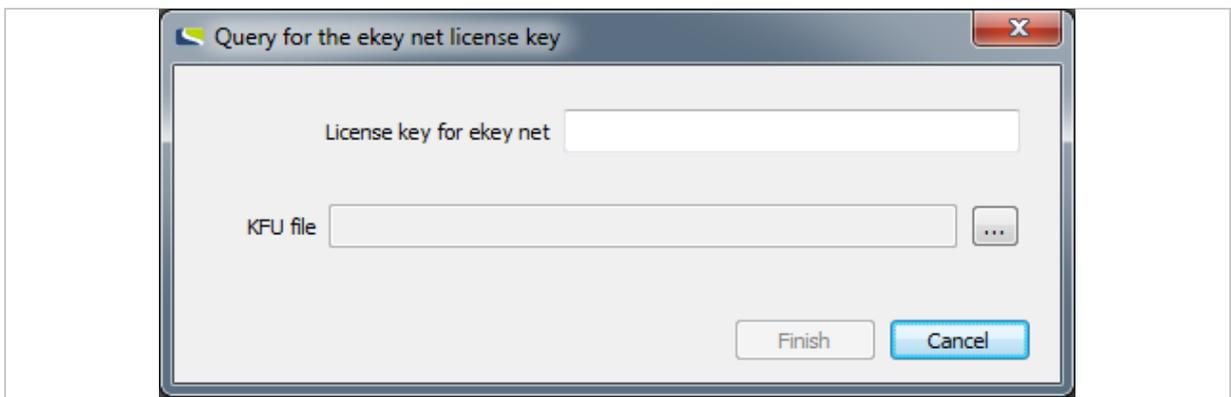

Fig. 10: QUERY FOR THE EKEY NET LICENSE KEY
7.	In the Query for the ekey net license key dialog, you will be asked to enter your license key for ekey net (see "Fig. 10: QUERY FOR THE EKEY NET LICENSE KEY ", page 20). You can ignore the option KFU FILE .
4th	You will be prompted to save the <code>ekeyLicenseRequest.txt</code> file. Send this file to license@ekey.net . You will then receive a KFU file from ekey. When you install the ekey net master server , the QUERY FOR THE EKEY NET LICENSE KEY dialog will ask you for this file (see “Fig. 10: QUERY FOR THE EKEY NET LICENSE KEY ”, page 20).